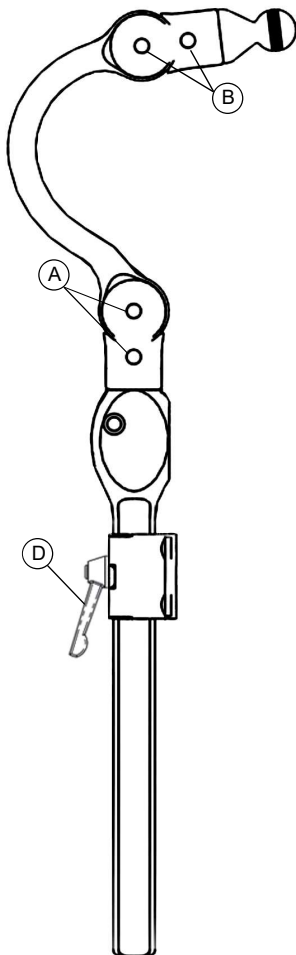
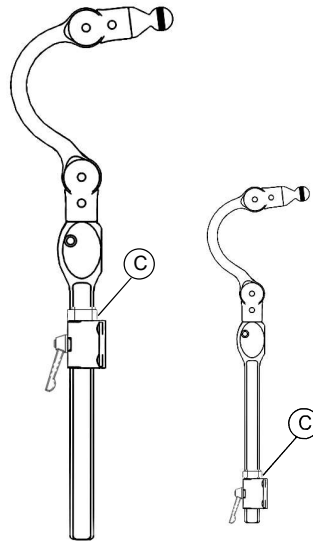

Fig. 1
Fig. 2
1. Assemble as shown in Fig. 1.
1. Vertical - Loosen the lever knob (Fig. 1, D) and adjust to the proper height and then lower the stop collar (Fig. 2, C). Vertical rod may be rotated for additional angle adjustment of pad/base plate assembly.
2. Depth and Angle Adjustment - Loosen adjustment screws (Fig. 1, A & B) for depth and angle adjustment. Note angle adjustment shown in Fig.3.
1. Unsnap horizontal pivot cover (Fig. 2, B). Angle T-handle or ball driver beneath tab and push up and outward. Refer to Fig. 1. Index pin on anti-rotational collar (Fig. 1, C) fits in to slot in top of detach receptacle (Fig. 1, D) to prevent rotation.